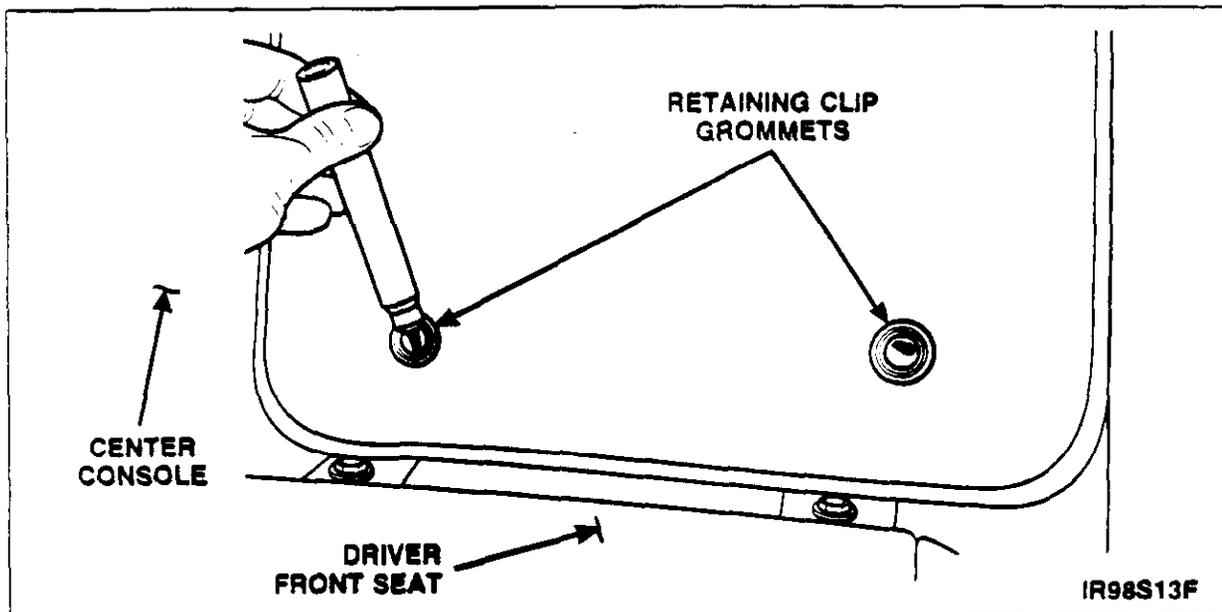

FIGURE 11
25. On all 1997 and 1998 models, position revised driver side floor mat into installed position (rear edge of floor mat position against front seat anchors). Refer to Figure 11.
26. Using marker, mark retaining clip grommet locations on carpet. See Figure 11.